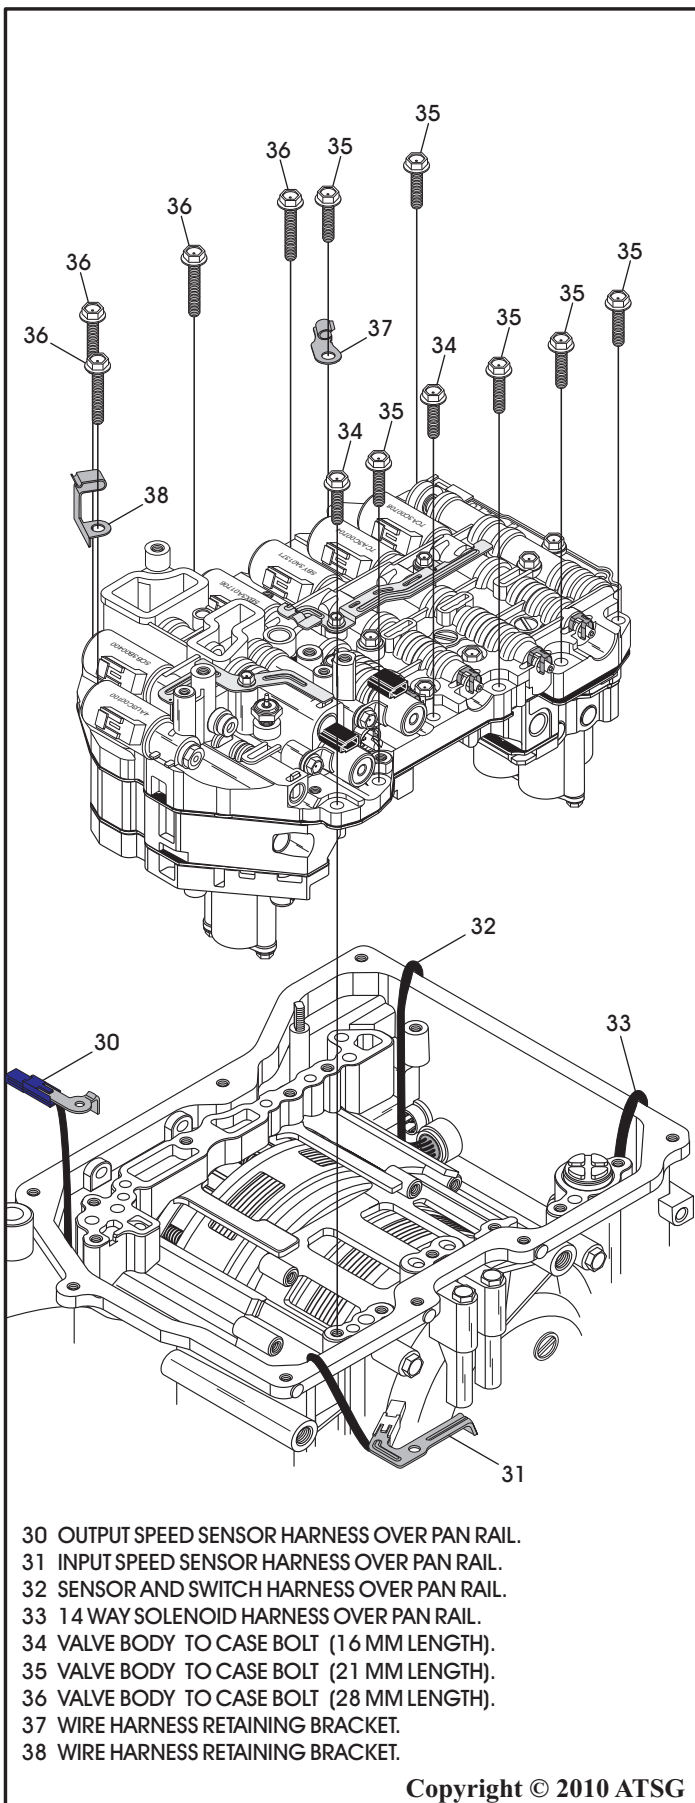

Figure 199
73. With all wire harness' laid over pan rail, install the completed valve body assembly onto case, as shown in Figure 199.
74. Install the 12 valve body to case bolts and wire the wire harness retaining brackets, as shown in Figure 199.
76. Install the temp sensor into the valve body bore, install retaining bracket and torque the retaining bolt to 11 N·m (97 in.lb.) (See Figure 199).